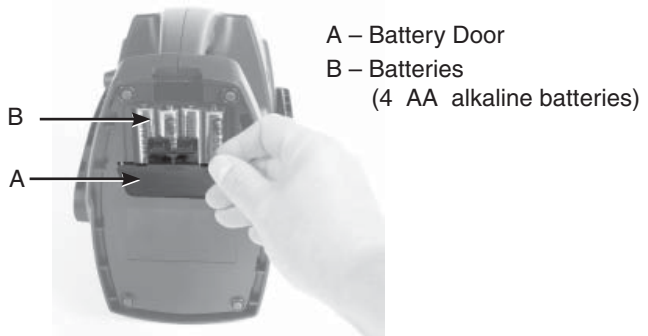

Figure 18. Removing Battery Door
1. Remove battery door (A) (Figure 18)
2. Remove and properly dispose of the four AA alkaline batteries (B)
3. Replace with 4 new AA alkaline batteries (B) (pay special attention to the battery polarity (+))
4. Replace and secure battery door (A).